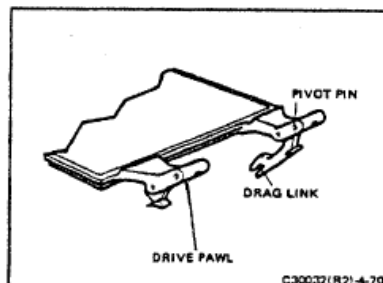

FIGURE 4-70 DRAG LINK & DRIVE PAWL
- At this point, the drag link may be replaced if needed. Do this as follows, referring to Figure 4-70:
- To replace the drive pawl (see Figure 4-70) and its spring, proceed as follows: